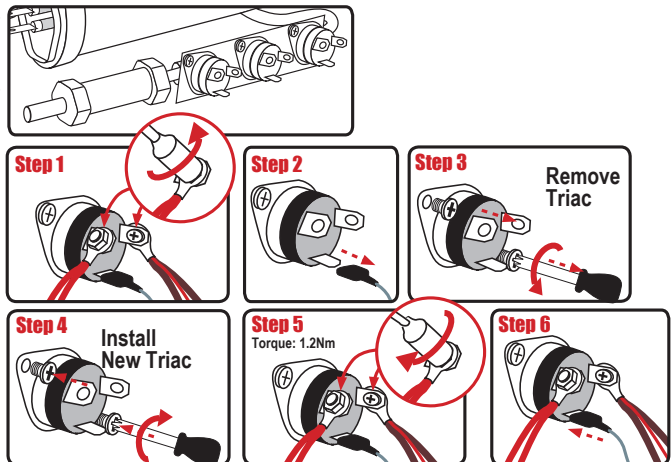

Figure 13 - Changing a Triac
- Disconnect the three (3) wire connectors on the triac. Remove the wires. See Figure 13.
- Remove the two (2) screws connecting the triac to the inlet. Remove the triac.